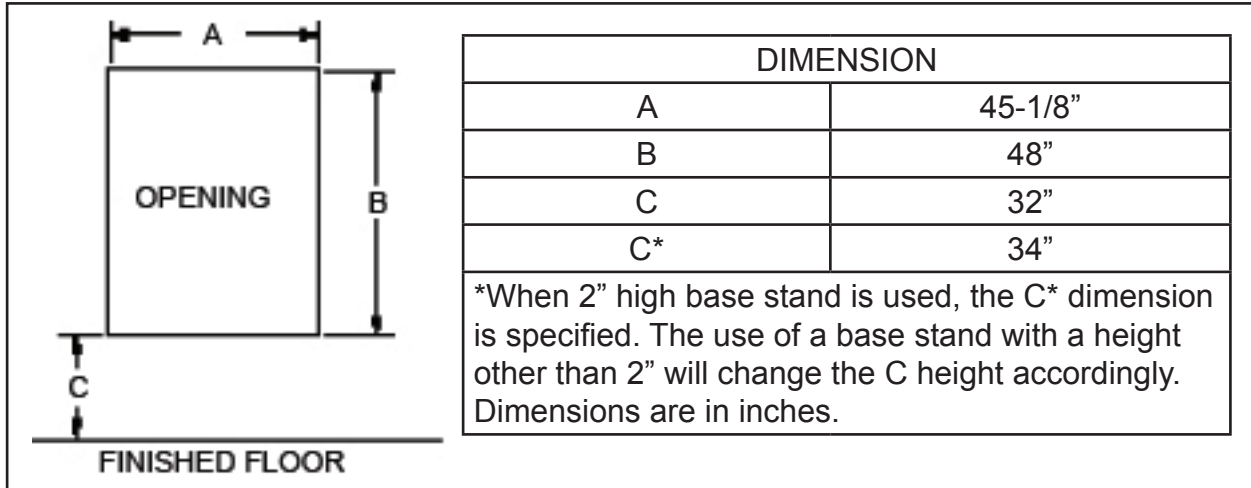

Figure 4. Wall Opening Dimensions for Scholar V Heat Pump and Air Conditioner.
- J. Weather Panels are field supplied and do not come with the Scholar V heat pump or air conditioner. If a weather panel covers the wall opening described in Figure 4, remove the weather panel prior to installing the unit into the wall opening.